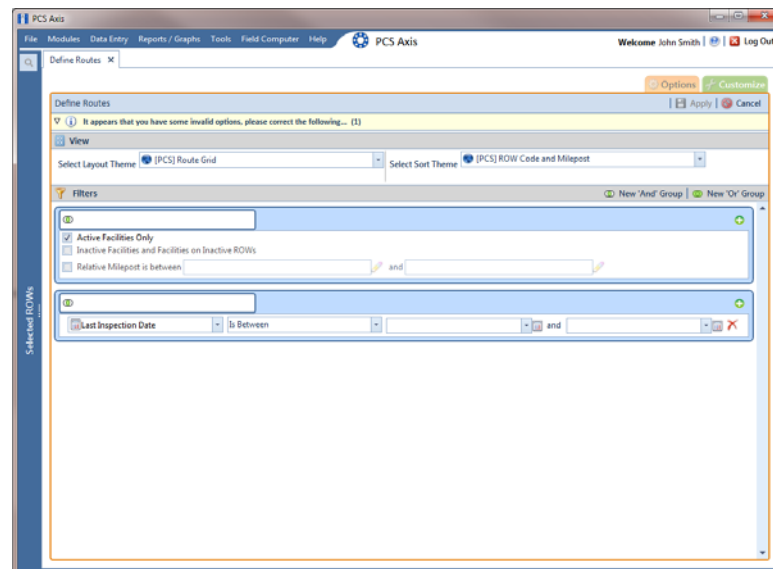

Figure 7-4. New 'And' Filter Group
- 7** If you want to add a new AND filter group, complete the following steps. With an AND filter group, PCS Axis includes a subset of records that meet *all* filter conditions defined for the filter group. Records are filtered in the grid and in the route (Figure 7-4, page 287).